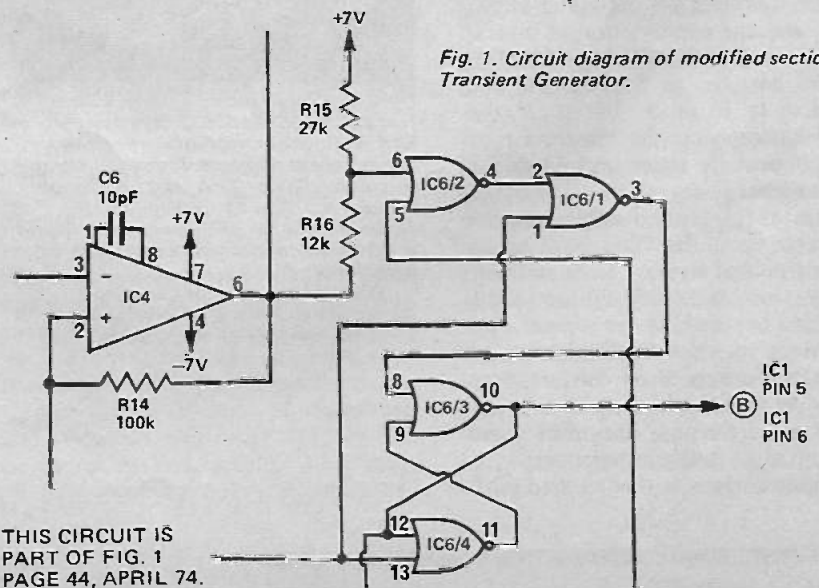

Fig. 1. Circuit diagram of modified section Transient Generator.
It is important to realise exactly what we usually mean by amplification when we come to speak of image amplifiers, devices which are of great importance in optical astronomy, military night-sights, and in low-light television. The 'amplifiers' to which we are accustomed work reasonably well at low frequencies, but, when the time of one cycle of signal becomes comparable to the time which the charge carriers in the 'amplifier' take to cross the space between electrodes, the amplifying action fails. For example, if the time of one cycle of signal is comparable to the time taken for electrons to cross from the emitter to the base of a NPN transistor, signals of that frequency will not be amplified, for the control action fails. It is impossible to control anything which has changed in the interval of control; this is probably most clearly illustrated by the action of a triode valve at high frequency. A signal makes the grid more positive so that electrons are attracted from the cathode, but, by the time the electrons have actually reached the cathode, the signal is negative, and the electrons are being repelled again. This is shown in Fig. 1.
Fig. 1. Most electronic amplifiers depend on electrons (or holes) moving from some part A to another part B. If B is positive electrons move but if the signal at B is reversed before the electrons reach it, then this is not possible.
occasional latch-ups of the Transient 1 type modules occurred. To understand the cause of this problem we must refer to the operation of the circuit diagram (Fig. 1) on page 44 of the April 1974 edition.
To prevent such latch-up ever occurring the following changes should be made with reference to the original circuit diagram and Fig. 1. of this article. Remove C9, D3, R24 and instal a wire link in place of C9. Next cut the copper PC board track between pins 1 and 2 of IC6 and connect pin 1 to pin 13.
THIS CIRCUIT IS PART OF FIG. 1 PAGE 44, APRIL 74.
In case (A) of Fig. 1, the capacitive current will be high when the square wave goes positive (time  $t_1$ ), and will rapidly lessen as the capacitor becomes charged. The same thing will happen when the square wave goes negative (time  $t_2$ ) except that the capacitor will now supply current back to the supply and hence the current will flow the other way. The current waveform through the network will thus be as shown in waveform 2.